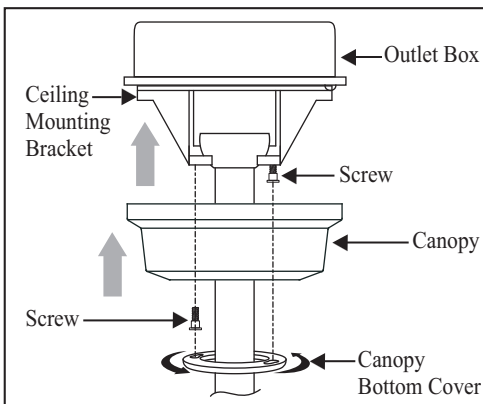

Figure 14
2. Slide the canopy up to mounting bracket and place the key hole on the canopy over the screw on the mounting bracket, turn canopy until it locks in place at the narrow section of the key holes. (Fig. 14)